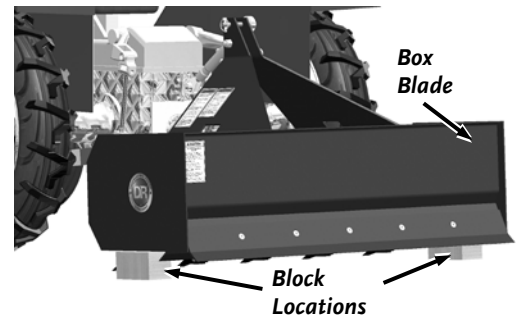

Figure 13
1. Lower the DR 60" 3PT BOX BLADE onto Support Blocks placed under each side of the Box Blade (**Figure 13**).